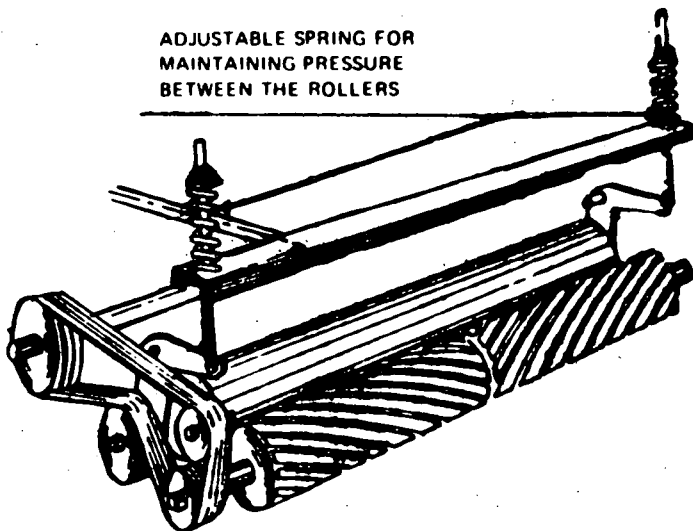

Fig. 1
a) The pressure between rollers, as indicated in Figure 1.